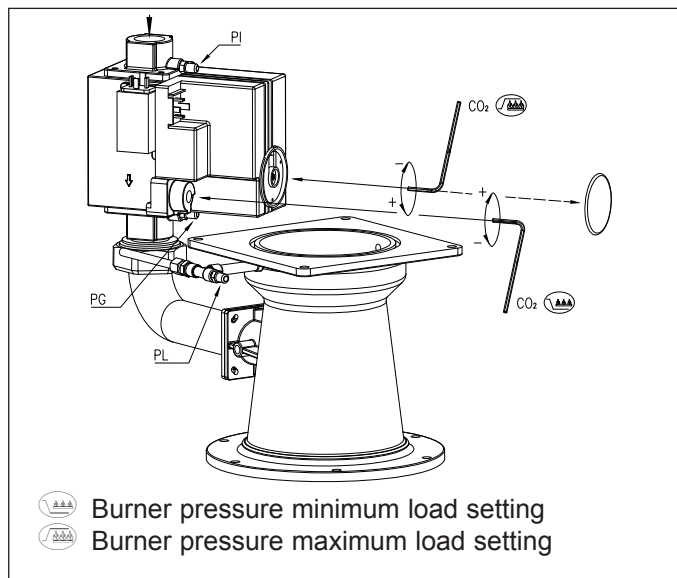

fig. 23 Gas valve multiblock adjustment points
11. Check the inlet gas pressure PI (see fig. 23).
Connect the gas pressure meter between measuring point PG on the underside of the gas valve multiblock and measuring point PL on the venturi (see fig. 23), ensuring the connections are gas tight.
- 17.d Check CO₂-percentage (O₂-percentage) against *table 11*. If the values exceed the given tolerances, adjust according to *fig. 23*. Check the flame through the inspection glass, the flame must not blow off.
- 17.g Check CO₂-percentage (O₂-percentage) against *table 11*. If the values exceed the given tolerances, adjust according to *fig. 23*.